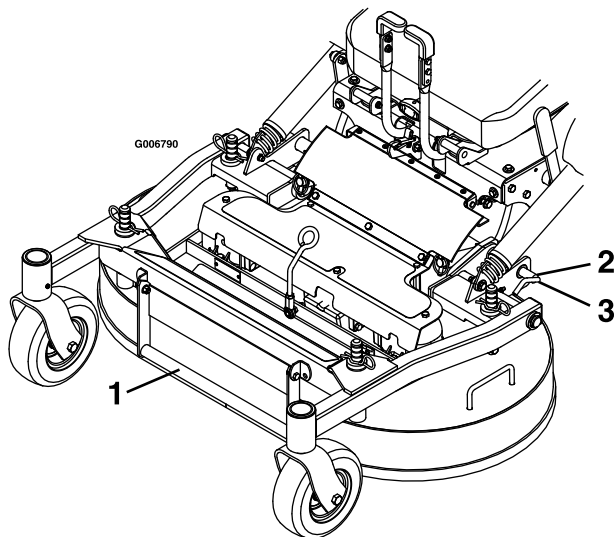

Figure 8
2. Release the deck locking pins on each side (Figure 8).
2. Push deck locking pins inward and rotate forward to securely lock deck in lowered position (see Figure 8).